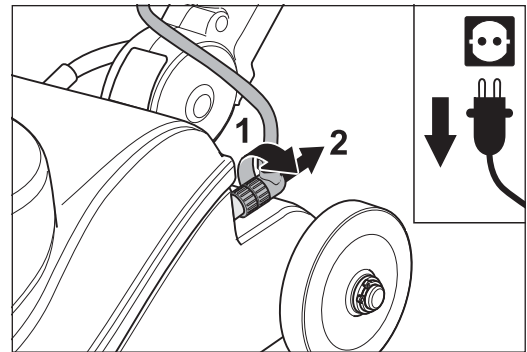

Fig. 28 Disconnect the cable plug of the guide tube from the machine housing.
- 4 Release the cable plug of the guide tube by turning the threaded ring on the cable plug and pull out the plug (Fig. 28).